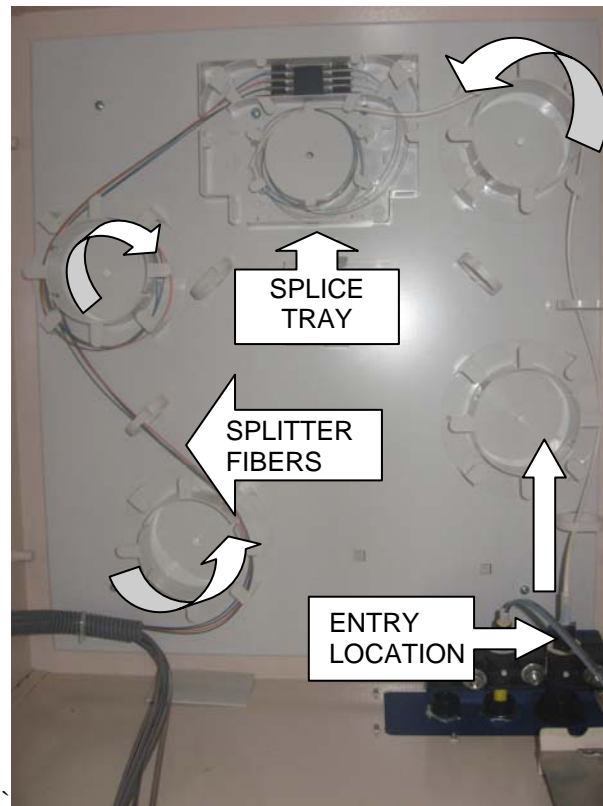

Figure 6
14. – Insert the feeder fibers into 24 inch long 3mm buffer tubing and route around the top right take-up spool and into the top splice tray. (Refer to Figure 6)
15. – Route the factory installed splitter fibers as recommended on the back panel diagram. The fibers should wrap around the take-up spool and into the top splice tray as shown in Figure 6.